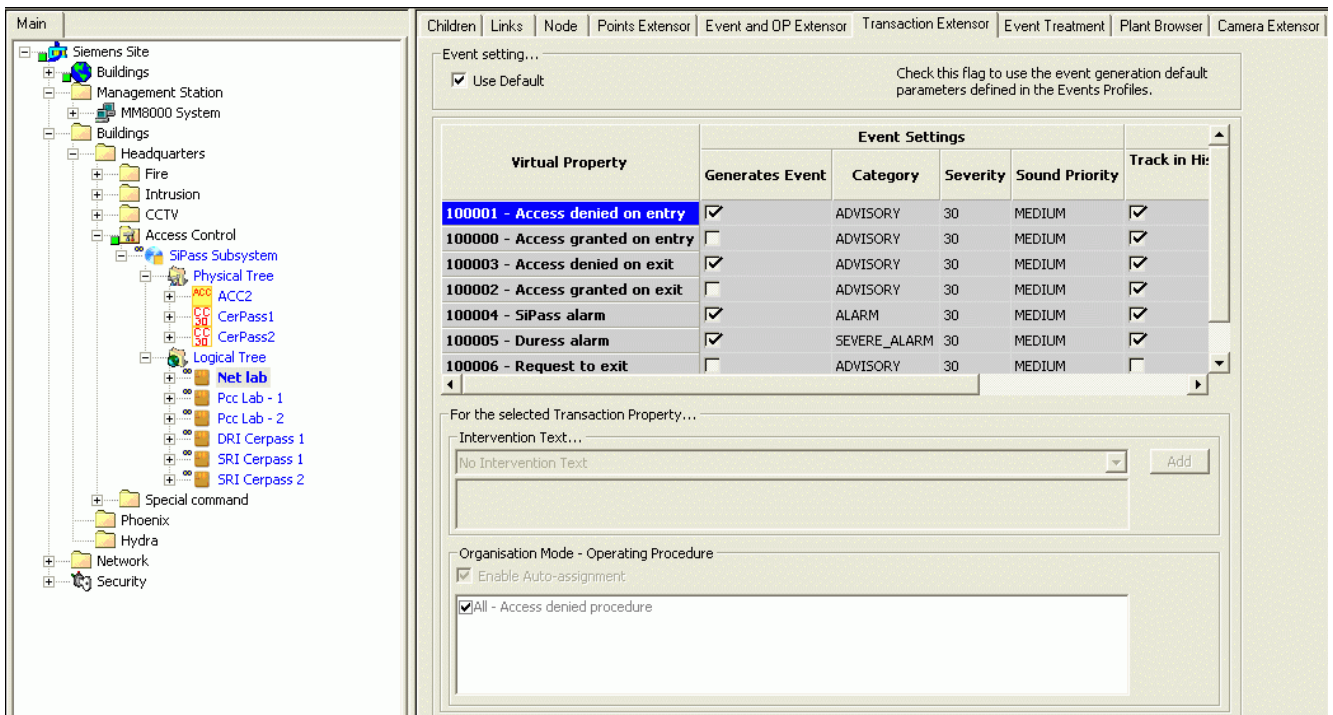

Fig. 13 Customising individual SiPass log options
- In the **Transaction Extensor** tab of each individual point and transaction, customise the log options (e.g.: enabling/disabling properties as in Fig. 13).